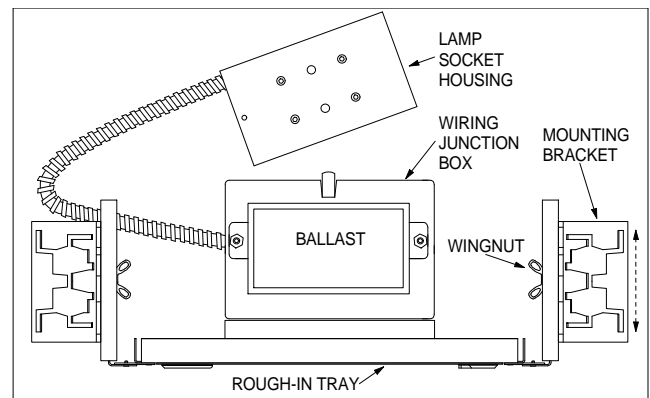

Figure 1 - Rough-in Tray Components
Refer to Figure 1 and conduct the following procedure to install the rough-in mounting tray.
1. Open the wiring junction box (Fig. 1) and install the conduit connector into a suitable knockout hole. Secure the fitting with the hex nut.
2. Loosen the two wingnuts on the fixture mounting brackets (Fig. 1) and position the rough-in tray flush against the ceiling panel. Tighten the wingnuts securely.
1. Feed the lamp socket housing (Fig. 1) down through the rough-in tray and ceiling cut-out.